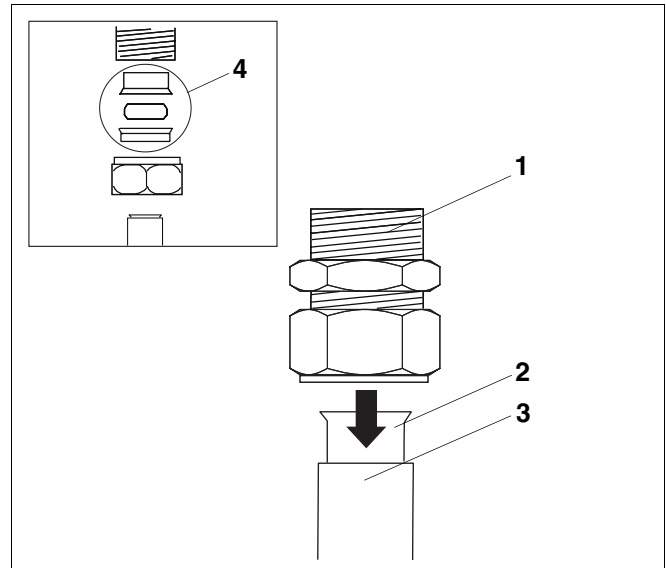

Fig. 7 Connect the Twin Tube 15.
- Trim the Twin Tube 15 pipe (Fig. 7, **Item 3**) correctly to be able to push it 2–3 cm into the compression fitting (Fig. 7, **Item 1**).
- Insert the support sleeves (Fig. 7, **Item 2**) into the Twin Tube 15 pipes (Fig. 7, **Item 3**).
- Push the trimmed Twin Tube 15 pipes (Fig. 7, **Item 3**) right up to the stop end, into the prepared compression fittings (Fig. 7, **Item 1**). The locking ring sets 18 mm × 15 mm must completely surround the Twin Tube 15 pipes.
- Secure the union nut with the compression fittings (Fig. 7, **Item 1**) as counter nut using a suitable spanner.